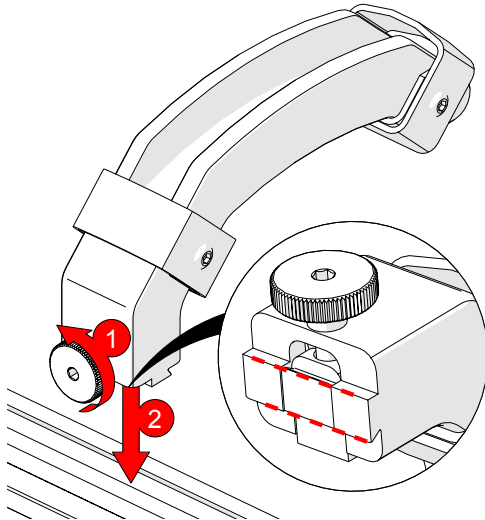

Fig. 14 - Attach handle to frame bar
1. Loosen the handle's knob and mount to a frame bar (Fig. 14).